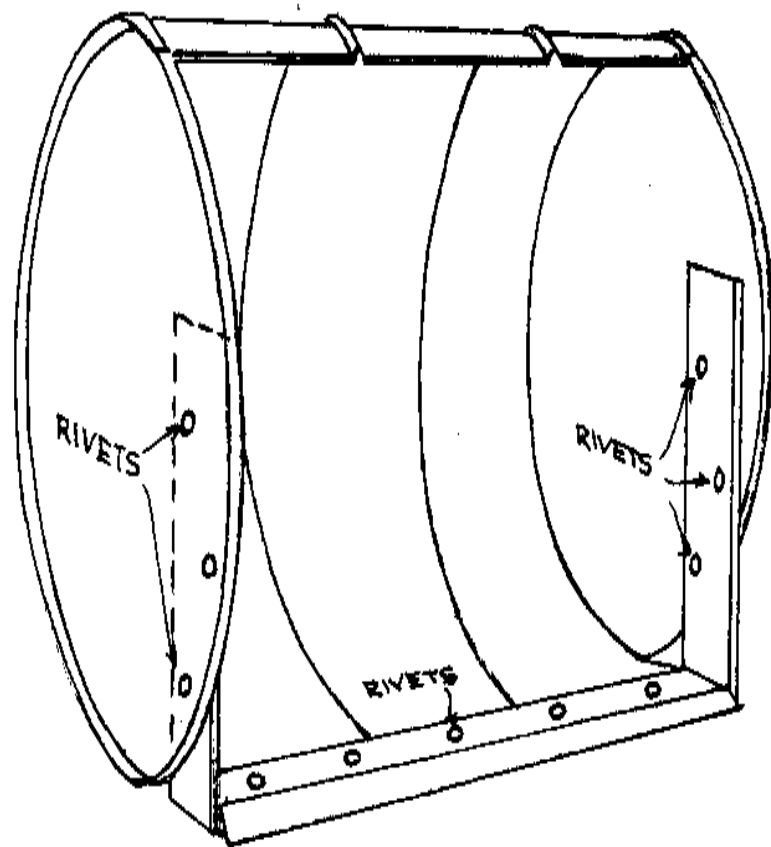

FIGURE 6 ATTACHING THE BLADE WITHOUT WELDING
- Drill holes and rivet as shown in Figure 6.